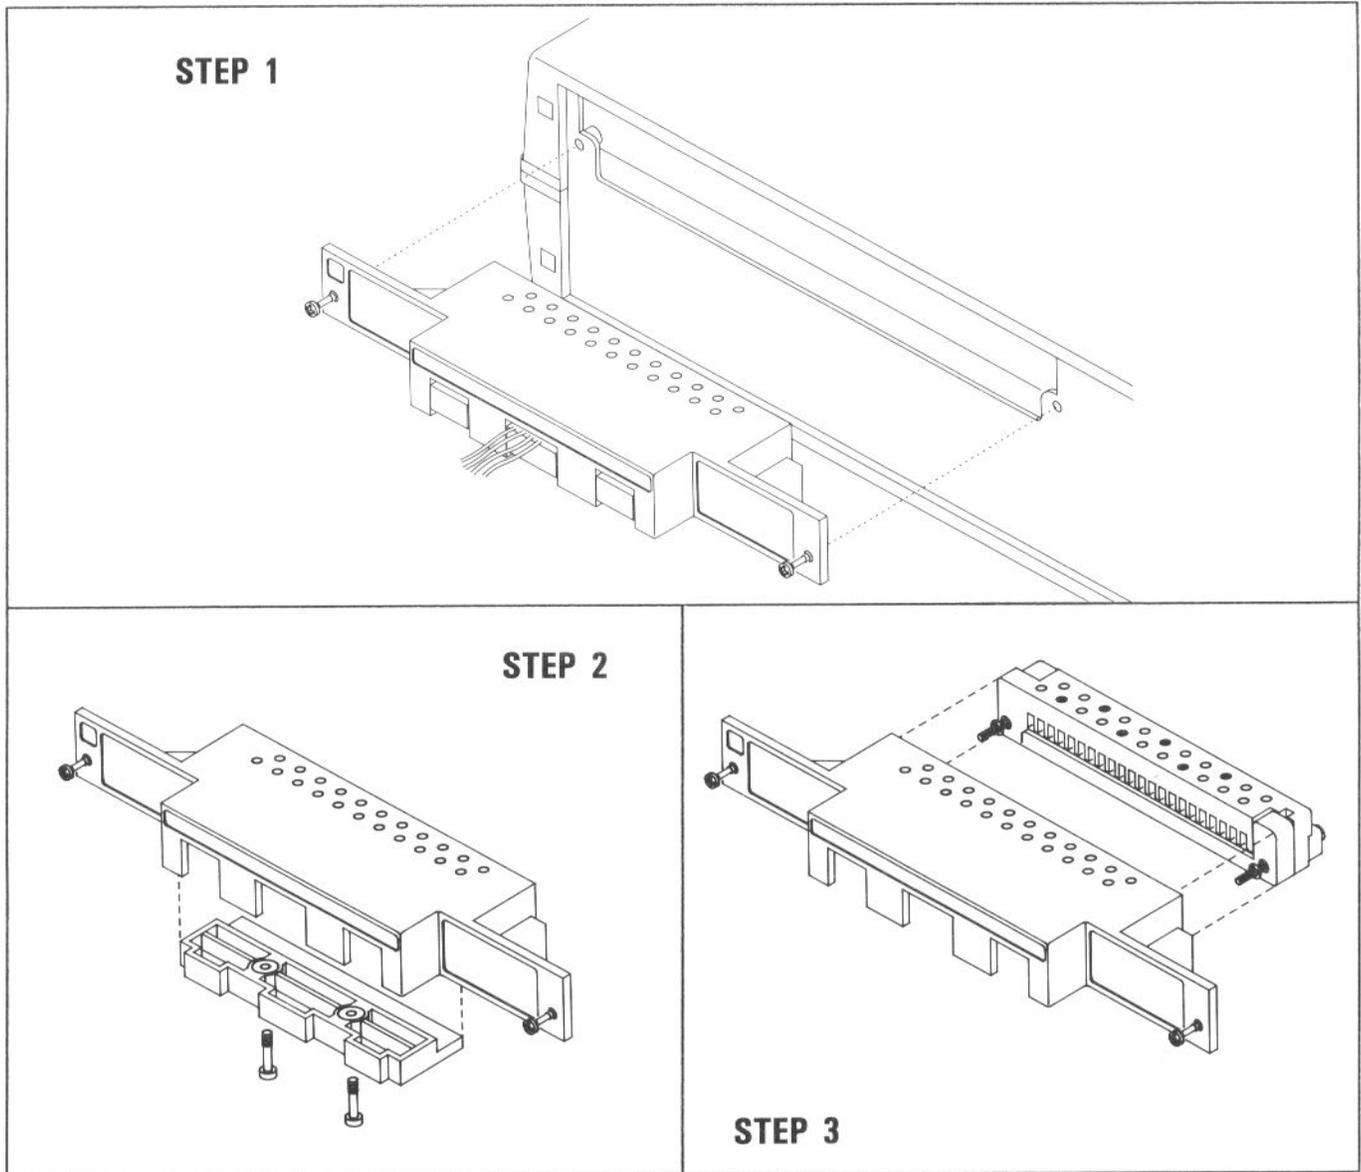

Figure 5-3. Terminal Block Removal
- a. Remove the two screws attaching the Strain Relief/Wiring Block Assembly to the rear panel and disconnect it from the instrument. (Refer to Figure 5-3, Step 1).
- b. Remove the Strain Relief Plate from the bottom of the Strain Relief Assembly (Figure 5-3, Step 2).
- c. Remove the Wiring Block from the Strain Relief Housing (Figure 5-3, Step 3).